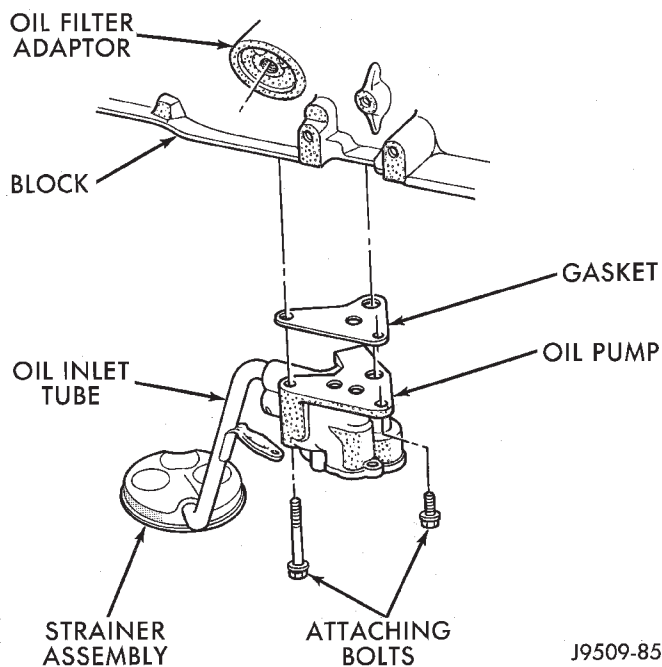

Fig. 60 Oil Pump Assembly
- (1) Drain the engine oil.
- (2) Remove the oil pan.
- (3) Remove the pump-to-cylinder block attaching bolts. Remove the pump assembly with gasket (Fig. 60).